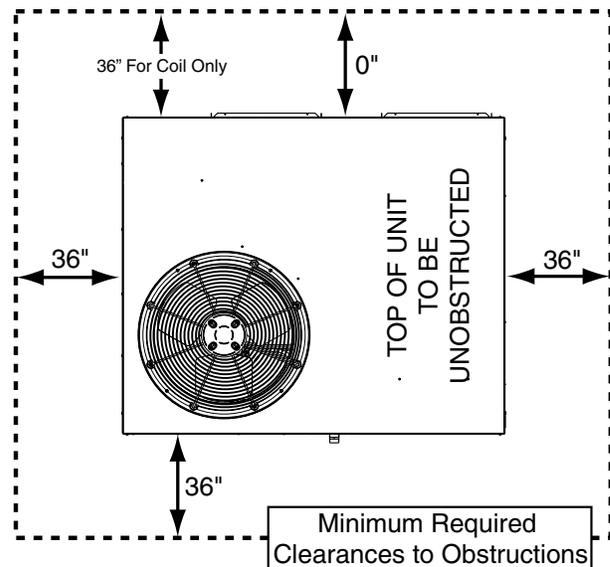

Figure 2. Clearance Requirements
- Sufficient clearance for unobstructed airflow through the outdoor coil must be maintained in order to achieve rated performance. See Figure 2 for minimum clearances to obstructions.
- Clearances must be in accordance with those shown in Figure 2. Also consider clearances for access to the internal filter.